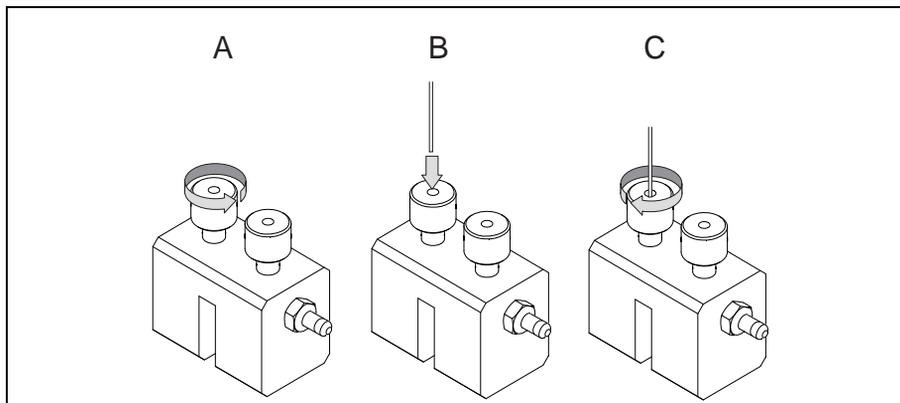

Figure 14-27. Leak Check
2. Carefully push the capillary column end into the **blind channel** of the column-flow meter connector as shown in Figure 14-27.
- Carefully push the capillary column end into the **open channel** of the column-flow meter connector as shown in Figure 14-27.